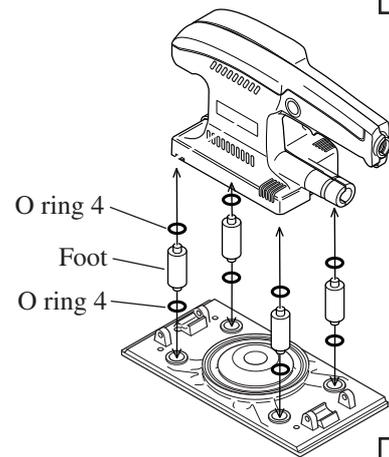

Fig.3
(3) Remove base complete by striking the head of counter sunk head screw with plastic hammer.
(4) Make sure, the 4 feet are assembled to the correct positions firmly. See Fig.3.